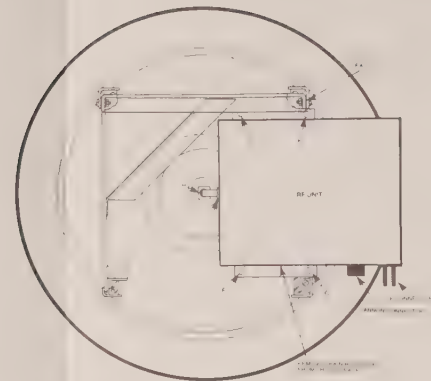

Figure 3-17. Fully Assembled RF/Antenna Assembly - Horizontal Polarization
NOTE: Unless the Antenna/RF Assembly will be mounted rightside up, horizontal polarization as shown in Figure 3-17, install a weatherproof right angle adapter (not supplied) onto each F connector of the RF Units.
Step 3. Mount the RF Unit on the reflector using screws at points D, E, F, and G with the connectors pointing down as shown in Figure 3-17.